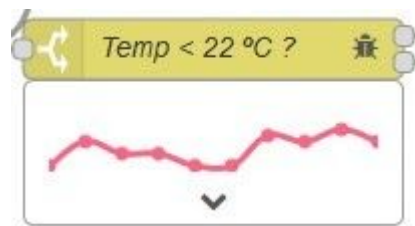
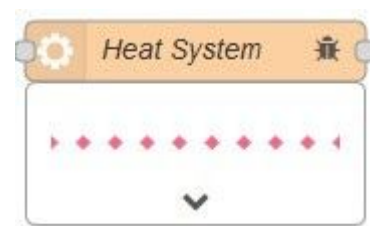

Figure 1.2
Figure 1.3
- 2) Messages Plot - has two different modes, when a payload is a number it displays a line plot, as visible in figure 1.2, otherwise displays a scatter plot with message frequency, as shown in figure 1.3.